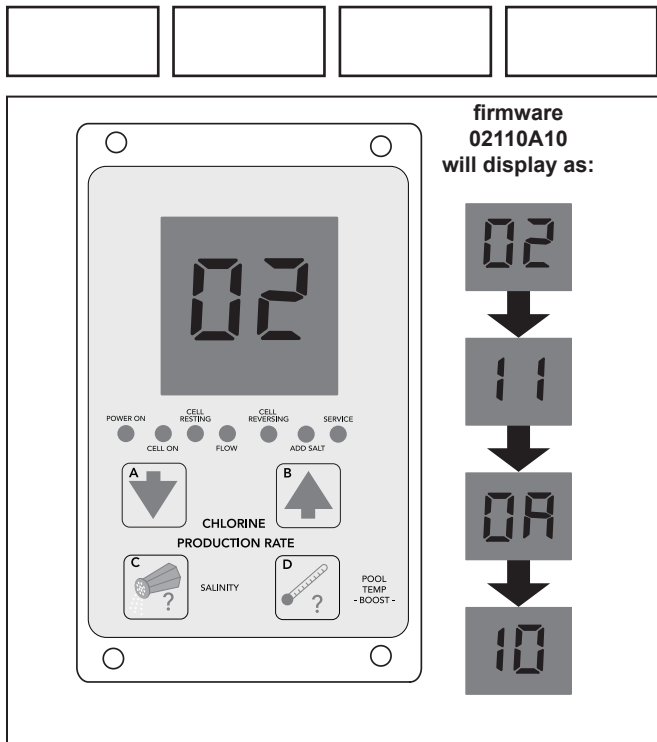

Figure 1. AquaPure User Interface
1. At the same time, press ,  and  on the AquaPure User Interface. See Figure 1.
NOTE The first four pairs of digits that flash on the AquaPure User Interface screen is the firmware revision. See Figure 1.